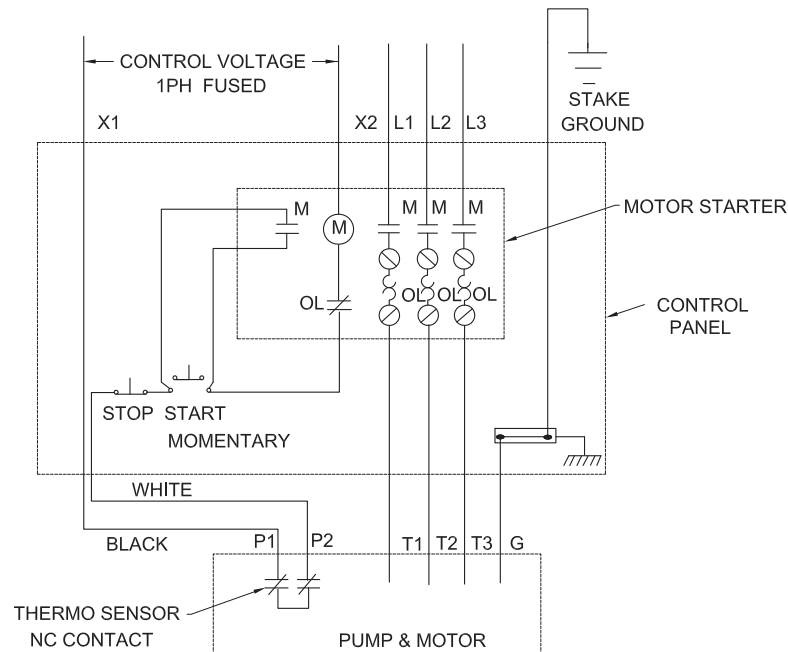

FIGURE 4
Current sensing overloads must be provided in the pump control panel and should be properly sized for the full load current of the pump. Three normally closed (N/C) thermal sensors wired in series (one per phase) are embedded in the motor windings and will detect excessive heat in the event an overload condition occurs which will then trip and stop the pump when wired in series with the pump contactor control circuit. The thermal sensor leads marked P1 and P2 **MUST** be connected in series with the stop button of the pilot circuit of the magnetic motor controller located in the control panel so that the thermostat will open the circuit before dangerous temperatures are reached. A manual momentary start switch is required to prevent the automatic restarting of the motor when the thermostat resets. For a typical wiring diagram, refer to Figure 4.
A normally open (N/O) detector is installed in the pump seal chamber, which will detect any moisture present, and a continuity test resistor built into the motor. The test resistor is rated 1 watt at 330K ohms. The moisture sensors **MUST** be connected to moisture detector control in the control panel which includes a continuity test circuit, see Figure 4 for typical wiring diagram. The normally closed (N/C) contact of the moisture detector **MUST** be connected in series with the stop button of the pilot circuit of the magnetic motor controller. Wiring must be provided from the moisture detector sensor probe leads of the motor designated W1 and W2 to terminals 9 and 10 of the 2800-XXX control. Terminal pair 1-2 must be continuously energized from an A-C supply line of electrical characteristics shown on the data table. In the event of moisture detection, the pump should be pulled and the source of the failure located and repaired. **IF MOISTURE DETECTION HAS OCCURRED, SCHEDULE MAINTENANCE AS SOON AS POSSIBLE !**
- A temperature sensing circuit (See Fig. 4)